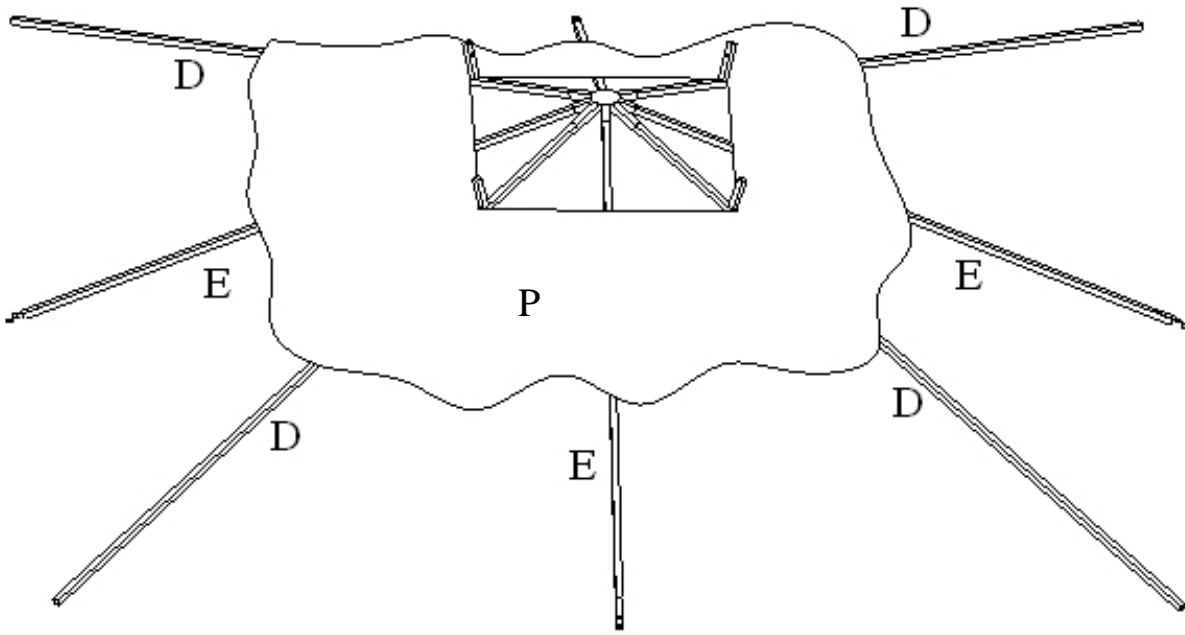

Fig.5
Step 5: Place the Large Fabric Cover (P) on the top frames formed in **Step 4**. But do not tighten it in place. See the Figure 5.